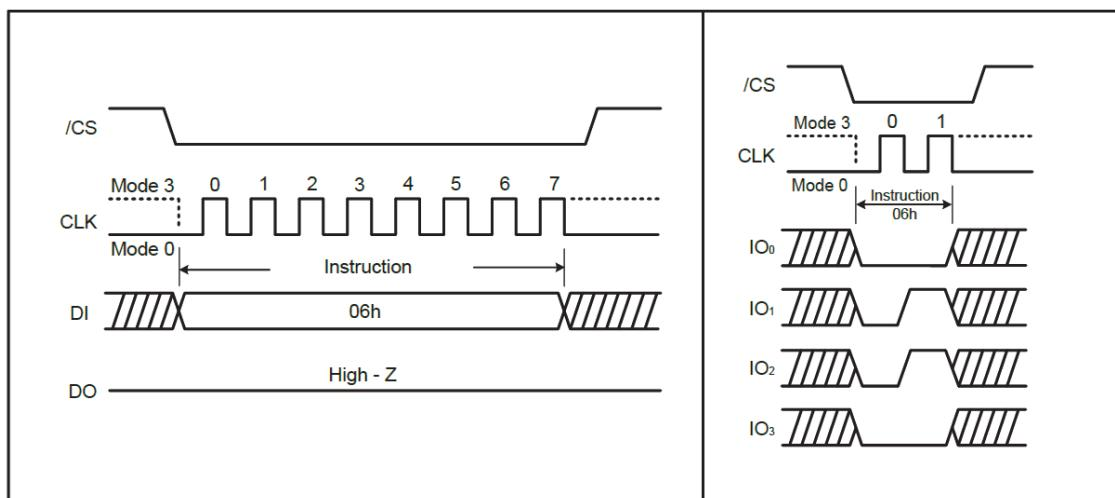

Figure 7, Write Enable Instruction Sequence Diagram and QPI Mode (right)
Instructions vary in length from a single byte to several bytes and may be followed by address bytes, data bytes, dummy bytes (don't care), and in some cases, a combination. Instructions are completed with the rising edge of edge CS#. Clock relative timing diagrams for each instruction are included in figures 7 through 43. All read instructions can be completed after any clocked bit. However, all instructions that Write, Program or Erase must complete on a byte boundary (CS driven high after a full 8-bits have been clocked) otherwise the instruction will be terminated. This feature further protects the device from inadvertent writes. Additionally, while the memory is being programmed or erased, or when the Status Register is being written, all instructions except for Read Status Register will be ignored until the program or erase cycle has completed.
The Write Enable instruction (Figure 7) sets the Write Enable Latch (WEL) bit in the Status Register to a 1. The WEL bit must be set prior to every Page Program, Sector Erase, Block Erase, Chip Erase and Write Status Register instruction. The Write Enable instruction is entered by driving CS# low, shifting the instruction code “06h” into the Data Input (DI) pin on the rising edge of CLK, and then driving CS# high.